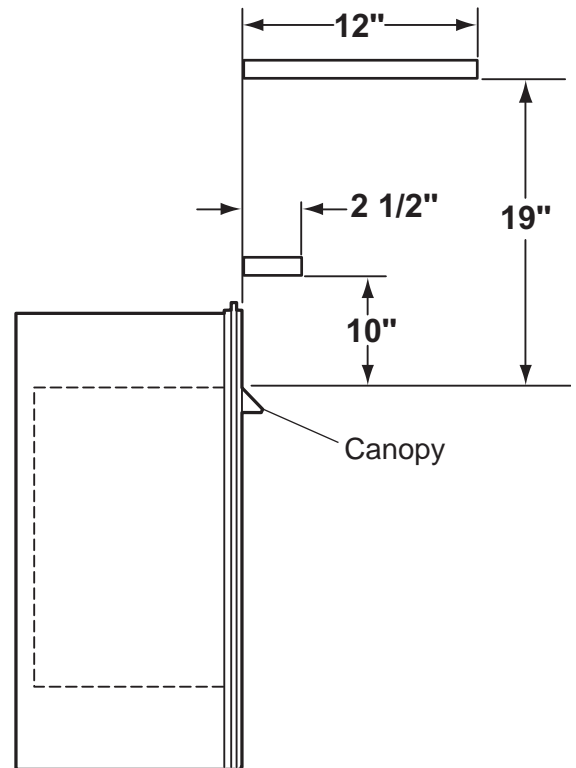

Figure 20 - Minimum Mantel Clearances
5. **Mantel clearances** — The canopy supplied with the unit must be installed. If a combustible mantel is installed. It must meet the clearance requirements detailed in *Figure 20.*